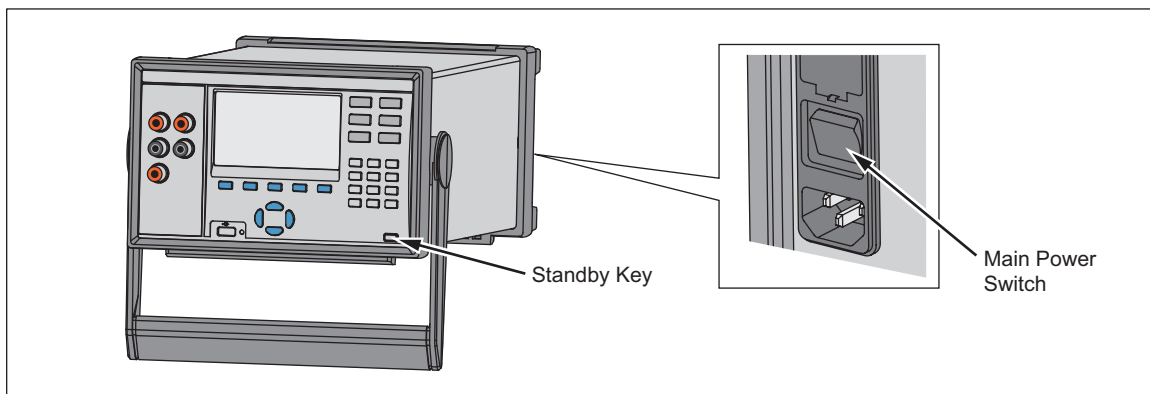

Figure 2-4. Main Power Switch and Standby Key
As shown in Figure 2-4, the Product has a main power switch located on the rear panel that supplies power to the unit, and a Standby key (⏻) on the front panel that puts the Product in a standby mode. Push the (I) side of the main power switch to power on the Product. As the Product powers on, a startup screen is shown on the display while the Product performs a self-check. This self-check can take up to 2 minutes to complete and if the Product detects any errors, an error message is shown on the display that contains the error description along with an error code to help troubleshoot the problem (see “Error Messages” in Chapter 7).